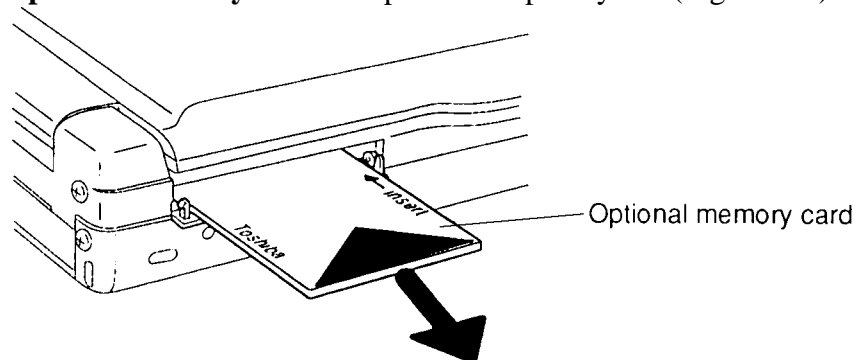

Figure 4-3 Removing the Optional Memory Card
5. Grasp the **optional memory card** and pull it completely out (Figure 4-3).